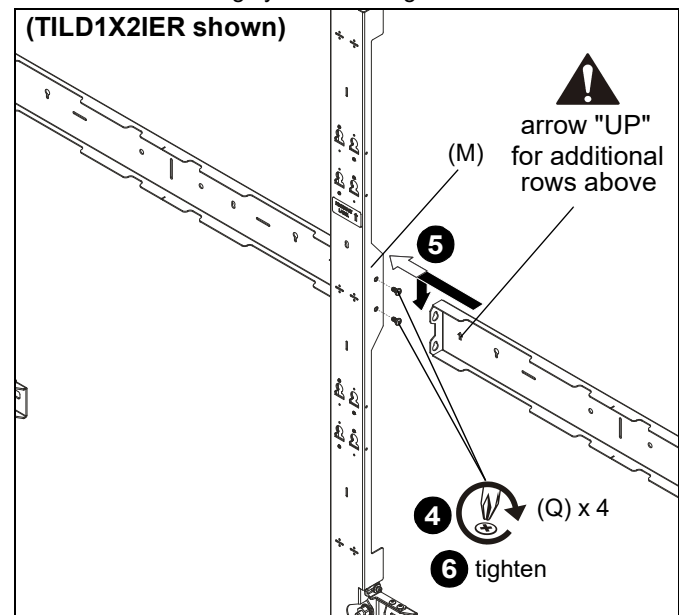

Figure 21
5. Hang spacer plate (P) onto partially installed screws (F). (See Figure 21)
6. Tighten screws (F) to secure spacer plate (P) to upright (M).
**NOTE:** Add uprights (M) or (N) one by one from left to right as the mounting system is being built on the wall.